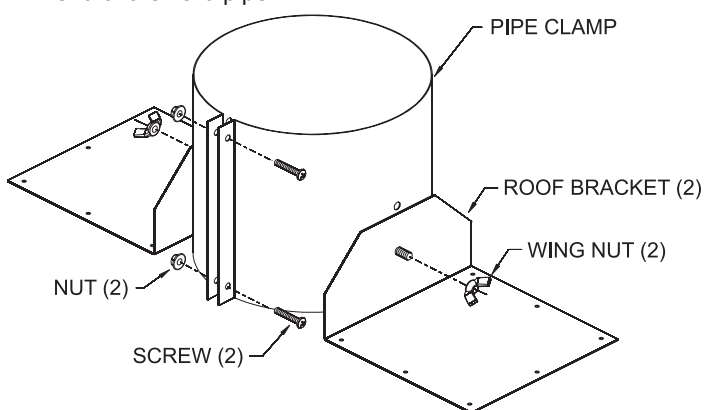

Figure 44
12. While the venting is still on the floor, assemble the roof jack components as shown in Figure 44 and pre-install the roof jack assembly to the hard pipe approximately 18" from the top end of the hard pipe.